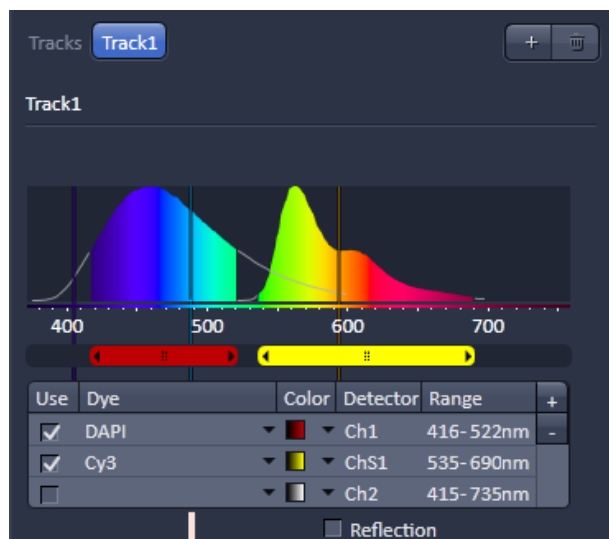

Fig. 19 Detection Bands & Laser Lines display
- For the configuration of the beam path, please refer to the application-specific configurations depending on the used dyes and markers and the existing instrument configuration (Fig. 19).
- The Detection Bands & Laser Lines are displayed in a spectral panel (Fig. 19) to visualize the activated laser lines for excitation (vertical lines) and activated detection channels (colored horizontal bars).